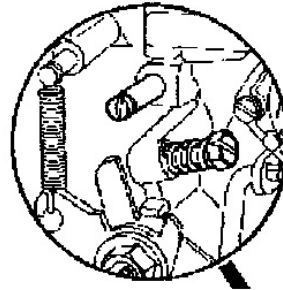

FIG 1
3. Set the mixture screw (see fig 1) by first screwing in until the screw stops, bottoms out. **DO NOT FORCE OR BIND AS THIS WILL CAUSE DAMAGE TO THE SCREW AND IT'S SEAT IN THE BODY OF CARBURETOR.** Back out the screw 2 full turns.